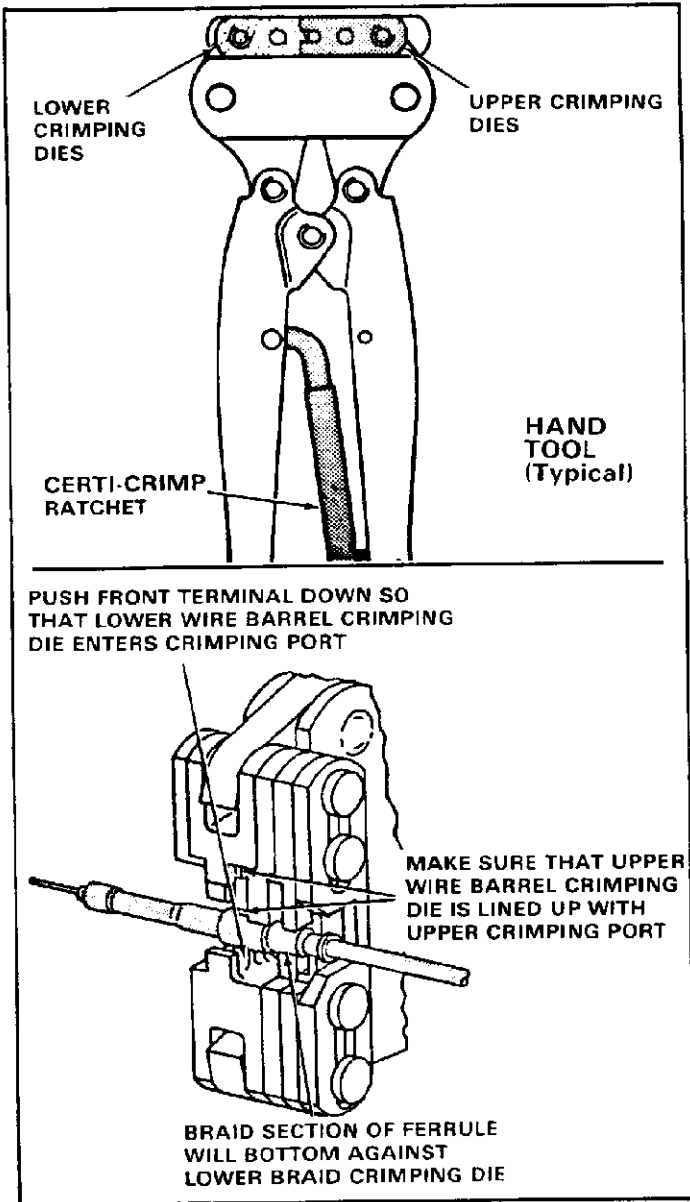

Fig. 5
A. Hand Tool Application (Figure 5)